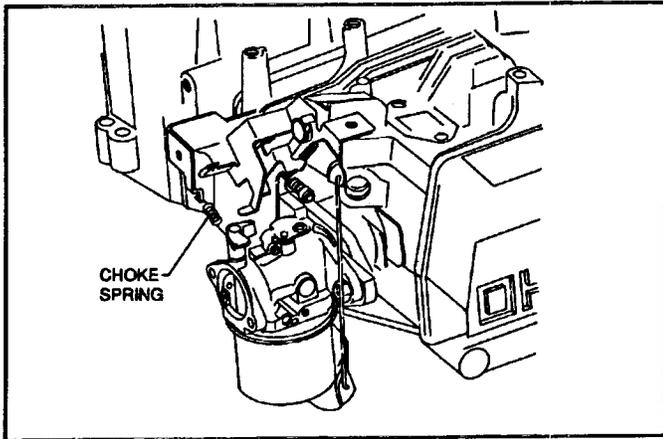

Figure 43
1. Note the position of the choke over-center spring before removal. This will aid proper reinstallation. The long hook end of the spring is attached to the carburetor shaft. Unhook the choke over-center spring. See Figure 43.